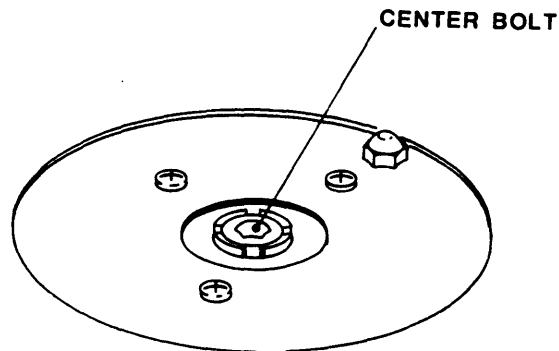

Figure 4-20 Supply Hub Assembly
4.3.23 SUPPLY HUB ASSEMBLY (Figure 4-20)